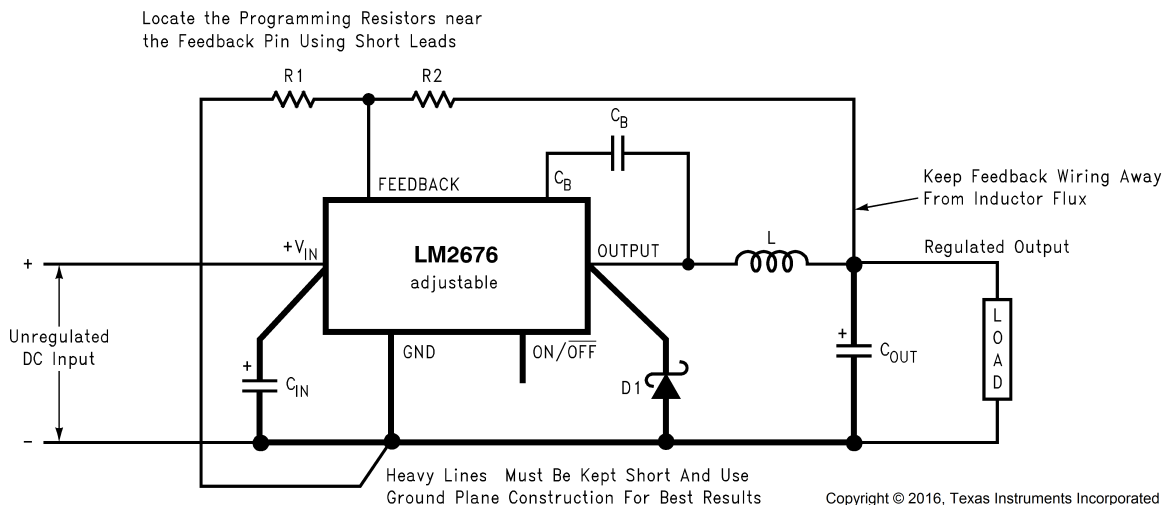

Figure 22. Basic Circuit for Adjustable Output Voltage Applications
**Step 2:** Select an LM2676S-ADJ. To set the output voltage to 14.9 V, two resistors need to be chosen (R1 and R2 in Figure 22). For the adjustable device the output voltage is set by the following relationship: